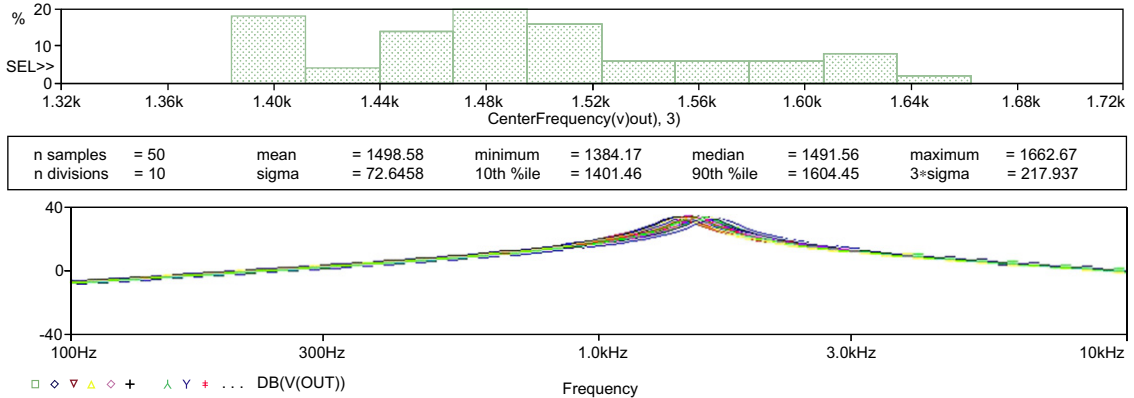

FIGURE 10.15
6. Histograms will now be displayed (Figure 10.15) representing the generated statistical data together with a summary of statistical data.